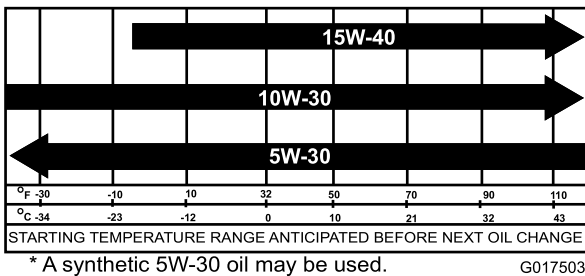

Figure 32
5. Fill the crankcase with the specified oil (Figure 32).